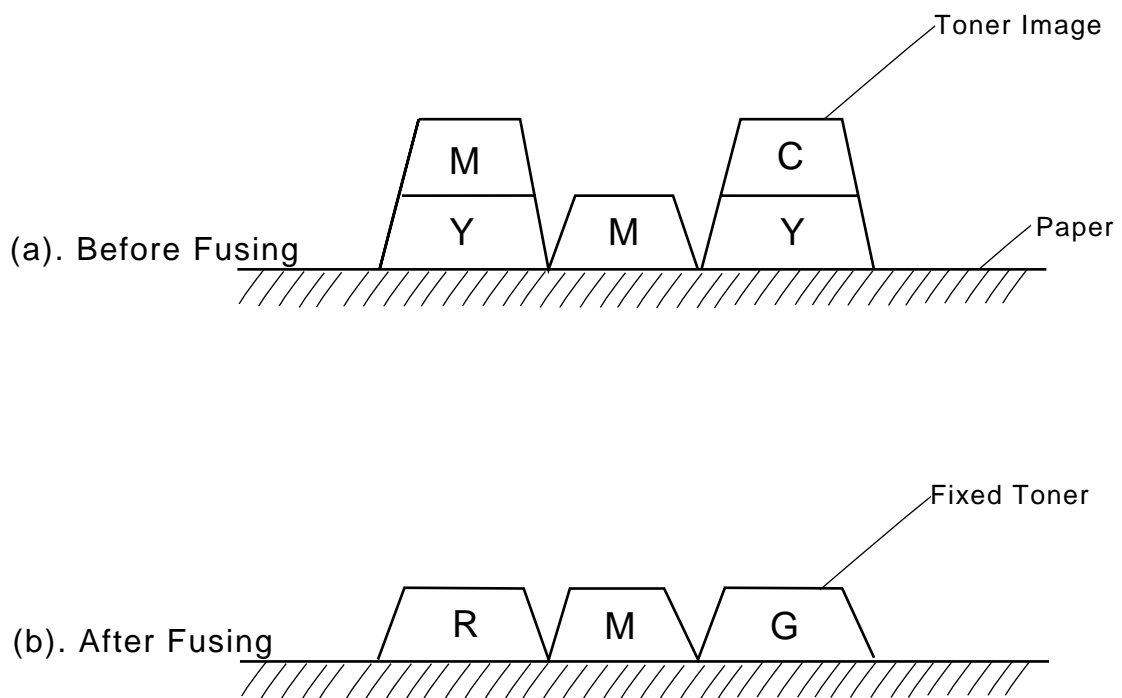

Fig.4-26
(2). Process of Fusing (Fig.4-26)
- ①. Silicone oil supplied from the oil bottle is applied to the surface of fuser roller and back-up roller.
- ②. Toner image is transferred on the paper, but not yet fused on the paper.
- ③. Transported paper passes between the heater roller and back-up roller.
- ④. Each roller is heated up to approx.140°C, and received approx.156N from the opposite heat roller.
- ⑤. When the paper carrying the toner images passes between the tow heat rollers, the toner images are melted and fused on the transported paper.
- ⑥. The paper carrying the fused image is separated from the heat rollers, and ejected from the printer.